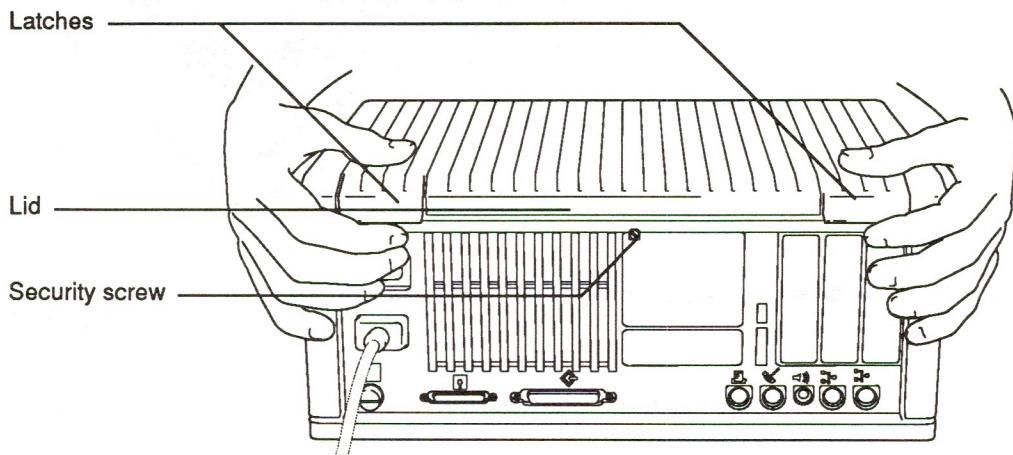

Figure 21, Removing the lid from the Macintosh IIcx
- a. Using a Phillips screwdriver, loosen and remove the security screw that holds the lid to the computer. (It is at the top center of the rear panel, as shown in Figure 21.)